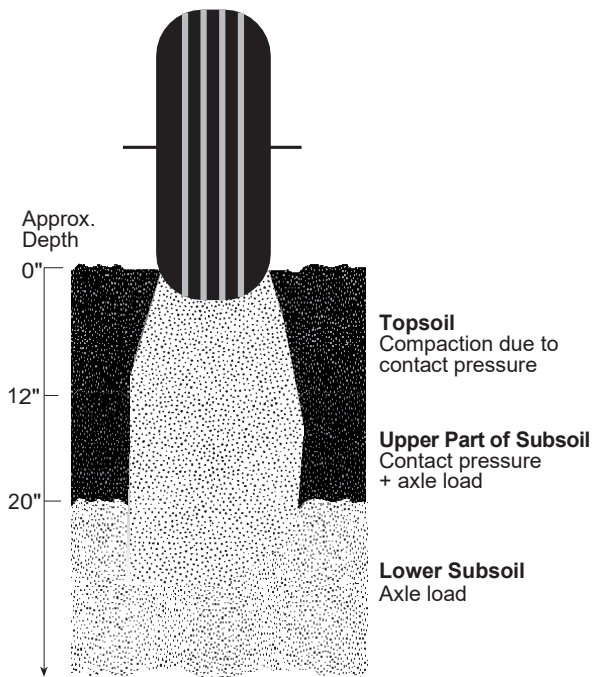

Figure 1. Topsoil compaction is caused by contact pressure, whereas lower subsoil compaction is caused by axle load.
Our knowledge of soil compaction has increased substantially in the past two decades, especially after results of an international project of more than 20 soil compaction experiments in North America and Europe were published. Based on this work researchers have discovered that: (1) compaction in the topsoil is related to ground contact pressure only, (2) compaction in the upper part of the subsoil is related to both ground contact pressure *and* axle load, and (3) compaction in the lower subsoil is related to axle load only (Figure 1).